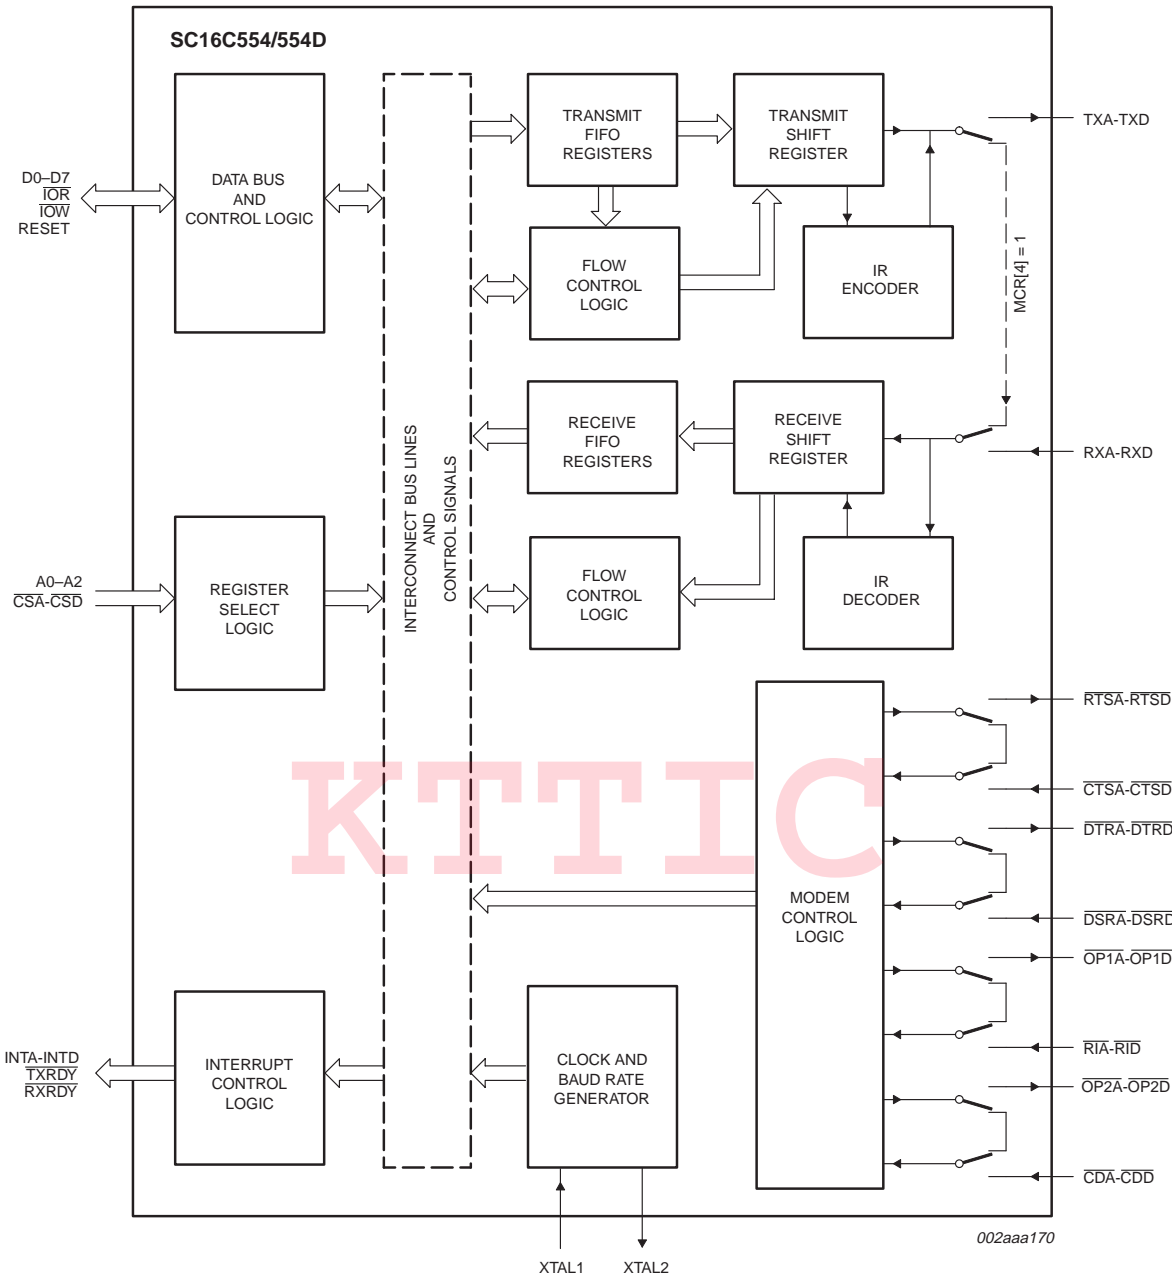

Fig 8. Internal loop-back mode diagram (16 mode).
The internal loop-back capability allows on-board diagnostics. In the loop-back mode, the normal modem interface pins are disconnected and reconfigured for loop-back internally. MCR[0-3] register bits are used for controlling loop-back diagnostic testing. In the loop-back mode,  $\overline{OP1}$  and  $\overline{OP2}$  in the MCR register (bits 2-3) control the modem  $\overline{RI}$  and  $\overline{CD}$  inputs, respectively. MCR signals  $\overline{DTR}$  and  $\overline{RTS}$  (bits 0-1) are used to control the modem  $\overline{DSR}$  and  $\overline{CTS}$  inputs, respectively. The transmitter output (TX) and the receiver input (RX) are disconnected from their associated interface pins, and instead are connected together internally (see Figure 8). The  $\overline{CTS}$ ,  $\overline{DSR}$ ,  $\overline{CD}$ , and  $\overline{RI}$  are disconnected from their normal modem control input pins, and instead are connected internally to  $\overline{RTS}$ ,  $\overline{DTR}$ ,  $\overline{OP2}$  and  $\overline{OP1}$ . Loop-back test data is entered into the transmit holding register via the user data bus interface, D0-D7. The transmit UART serializes the data and passes the serial data to the receive UART via the internal loop-back connection. The receive UART converts the serial data back into parallel data that is then made available at the user data interface D0-D7. The user optionally compares the received data to the initial transmitted data for verifying error-free operation of the UART TX/RX circuits.